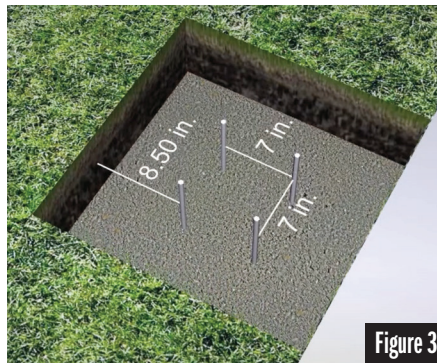

Figure 3
STEP 4: Fill the hole half way with concrete and evenly space Rebar (Part C) in the dimensions shown in Figure 3. *Note: Rebar is added to help reinforce & strengthen the concrete.